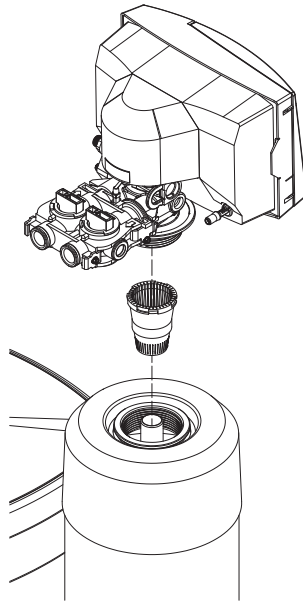

Figure 2
- Align the control valve with the tank. Push down on the control valve and continue to turn it clockwise until the valve O-ring seals against the tank (see figure 2).